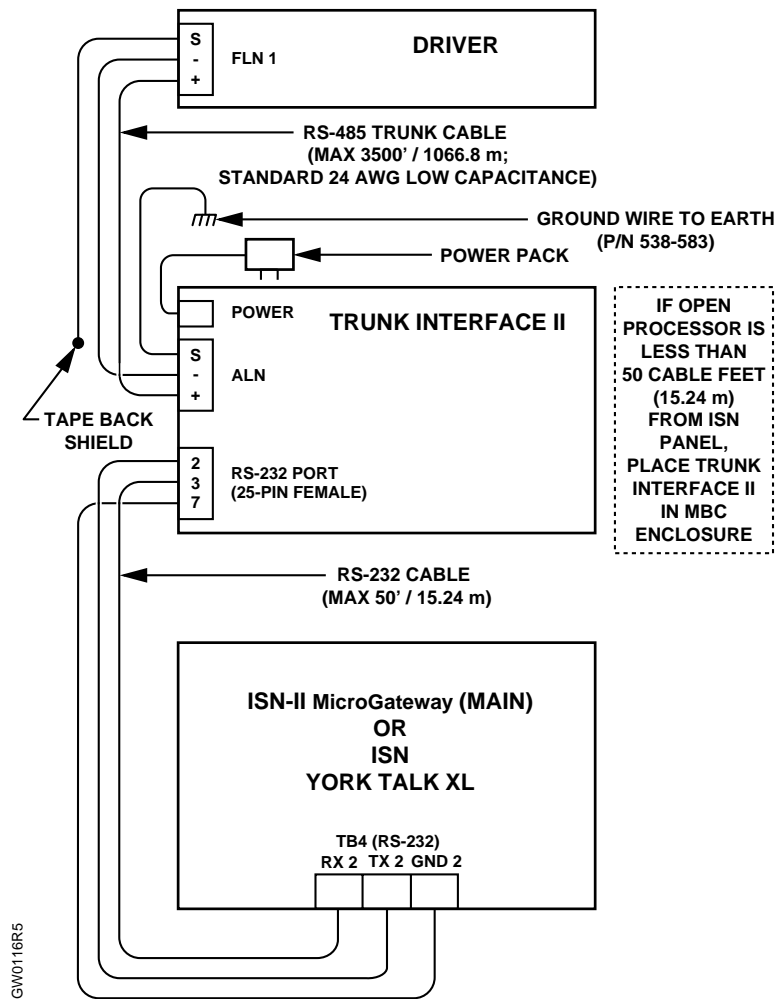

Figure 1. Connecting the YORK ISN Enhanced Driver to the YORK System.
1. Make cables per diagram in Figure 1.
2. Install the Trunk Interface II per diagram in Figure 1.
3. Connect cables per diagram in Figure 1.
4. Plug in power supply for the Trunk Interface II per diagram in Figure 1.